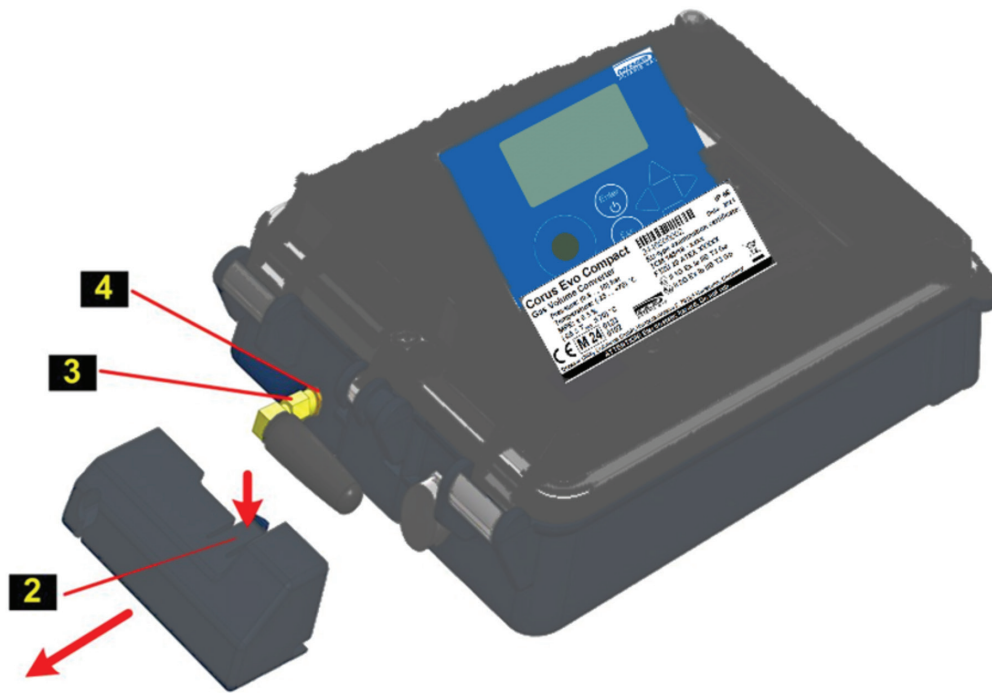

Fig. 46 Replacing the modem - removing the antenna
If the requirement arises to dismantle and remove the antenna cable from the instrument, the antenna cover must first be removed as per paragraph 7.3.3 (if the cover is used), the antenna nut **3** (see Fig. 46) loosened and the antenna unscrewed. After loosening the fixing nut **4** of the cable connector, the antenna cable connector can be slid out towards the instrument.
- Press the latch **2** of the antenna cover (Fig. 46) and pull it to the side to remove the cover.